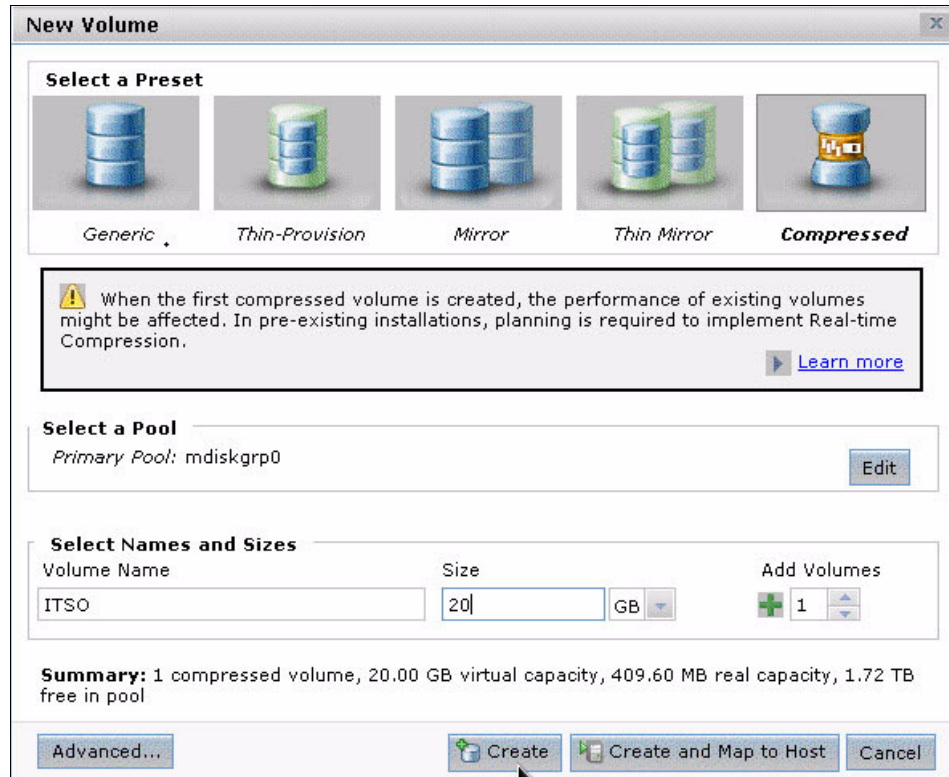

Figure 2-30 Creating a compressed volume
- As shown in Figure 2-30, select the pool and enter the volume name and size. Click **Create**.